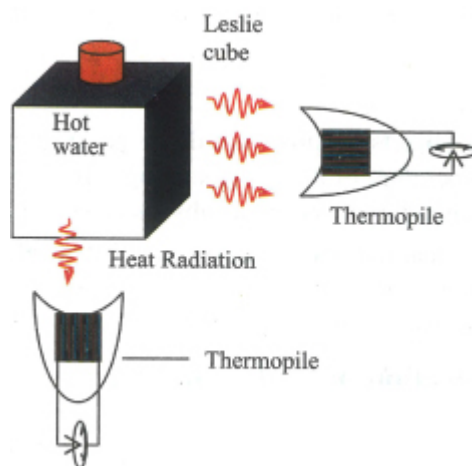

Figure 9.11 Radiates from different surfaces
**The amount of radiation given out by the body depends on its temperature and the colour of its surface.** We can prove this by using a hollow copper cube known as **Leslie cube** (see fig 9.11) with the sides painted with different colours. One side is painted dull black; another side is highly polished to reflect heat away. The remaining sides are painted with other colours, some dull and some bright. The demonstration is done as follows: